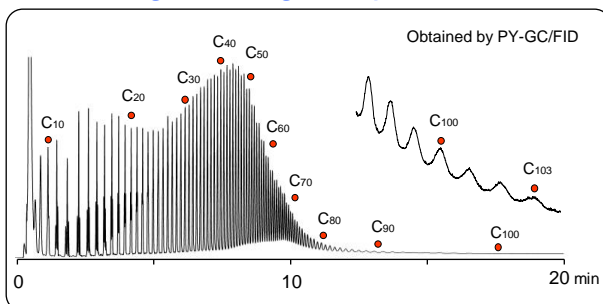

Fig. 2 Pyrogram of polyethylene
- Cold spots at the heat sink adapter and ITF are minimized to allow the detection of high-boiling compounds with high reproducibilities (Fig. 2).
Combining the heat sink adapter and septum cap ensures thermal uniformity of the joints between the pyrolyzer and GC, and this enables elution of higher boiling compounds of  $\text{C}_{100}$ . (see Fig. 2)